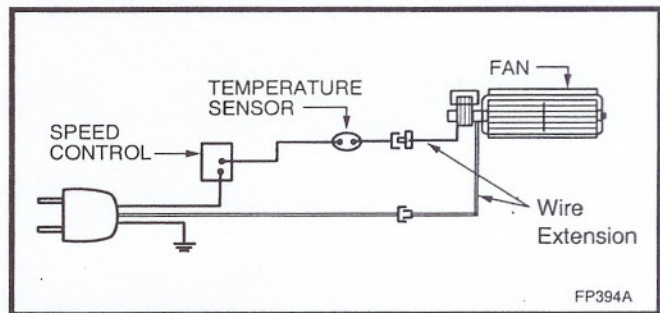
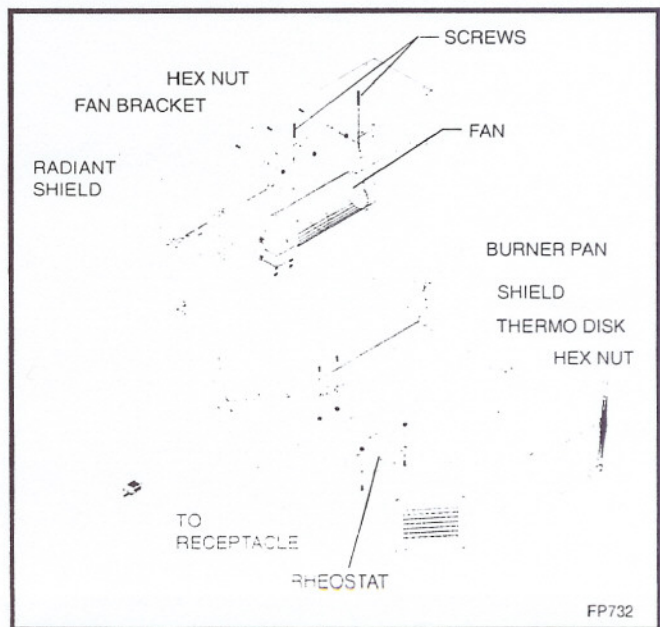

Fig. 5. Wiring diagram.
Fig. 6. Parts identification.
1. Remove the two (2) screws holding the screen rods inside the bay top. Remove the screen and rods then set aside.
2. Remove the bay top by removing three (3) screws securing it to the combustion dome.
4. Remove three (3) nuts securing the fan bracket to the back of the heater.
5. Remove the (2) screws holding the bracket to the fan. Discard this bracket.
6. Remove the two (2) wires attached to the fan and assemble the fan to the bracket as shown in figure 6.
7. Attach the fan assembly to the back of the heater with the three (3) nuts.
8. Attach the electrical flag connectors to the fan motor using the wire extension (See fig. 5.)
11. Mount the thermo-disc to the shield under the burner pan and secure with two (2) nuts.
12. Mount the fan on-off control to the base with the studs provided and secure with two (2) nuts.